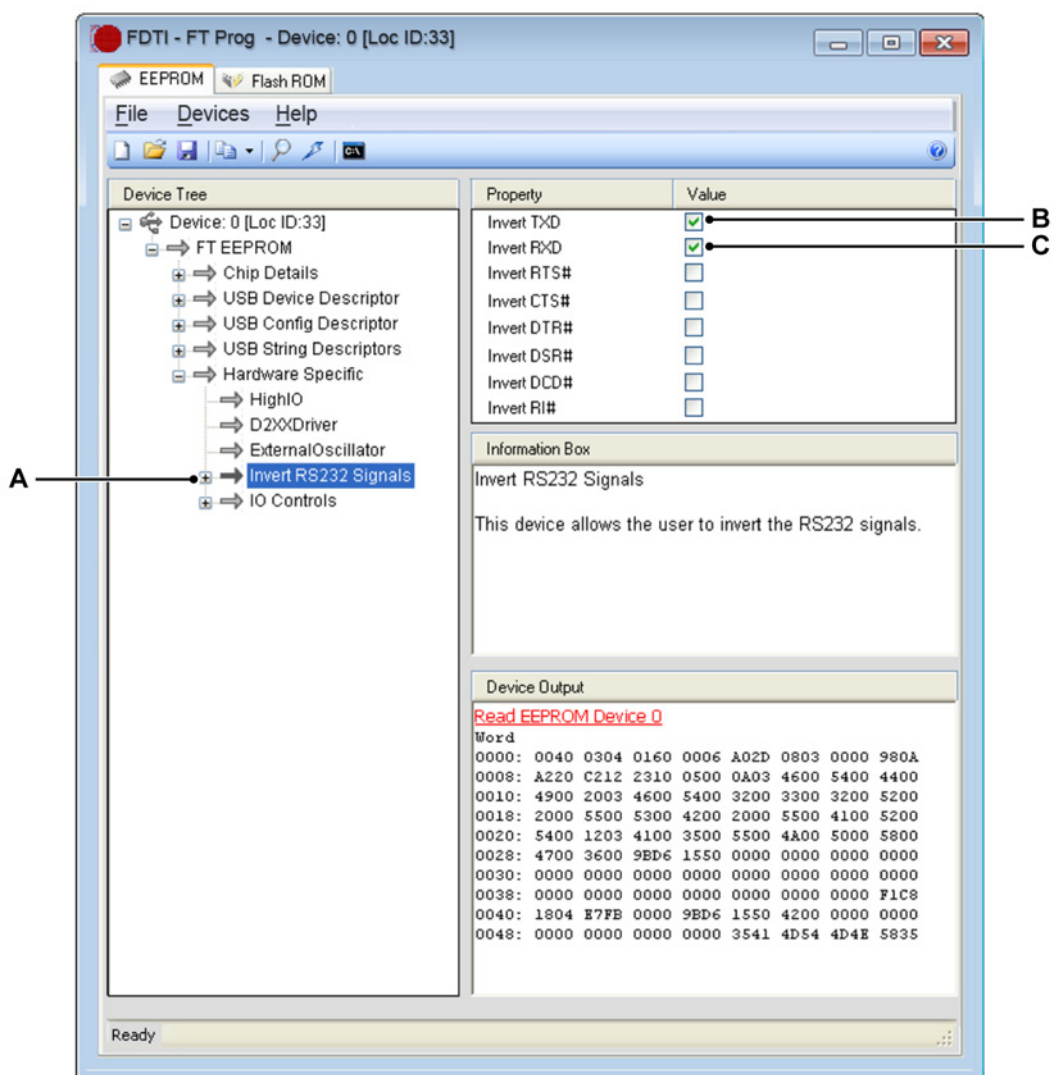

Figure I.2: FTDI - FT Prog (Part2)
- 4 In **Device Tree** on the left column expand the **Hardware Specific** node and select the **Invert RS232 Signals** (see Figure I.2).
- 5 In the **Property** column select **Invert TXD** and **Invert RXD** check boxes (see Figure I.2):